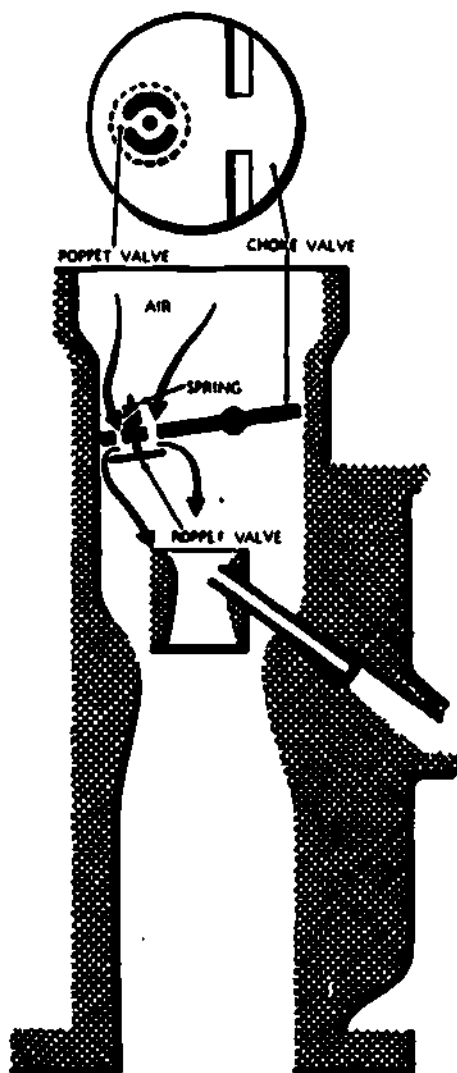

Fig 1-31. Choke circuit.
- (6) **Choke circuit (fig 1-31).** A rich mixture is needed when starting and operating a cold engine. This is because all the fuel supplied to the cylinders will not vaporize easily when cold; therefore, a large amount of fuel is supplied in order to get enough vaporized fuel for combustion. A choke circuit is used to supply the extra fuel. The choke is a round flat valve (similar to the throttle valve) placed in the carburetor air horn above the venturi. Closing the choke valve will create a high vacuum in the carburetor throat. This causes large amounts of fuel to flow freely from both the low- and high-speed circuits. Chokes may be operated manually by the driver or they may operate automatically.
One method is shown in figure 1-31. The choke valve includes a spring-loaded poppet valve. The poppet is normally held in the closed position by a weak spring. As